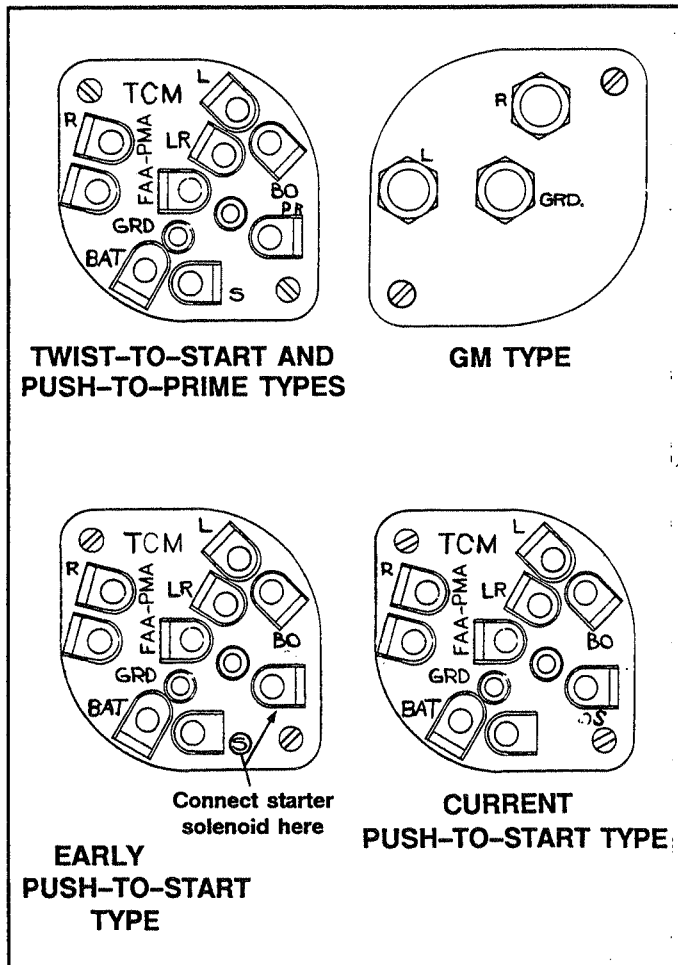

Figure 6. Switch Terminal Locations
- A. Using the pertinent illustration in Figure 6, connect wires to their proper terminals using screws (1-24) or nuts and lock washers (1-28, 1-5a). If right magneto is to be grounded during start, attach lug terminal (1-23) across terminals nearest the "R" mark.